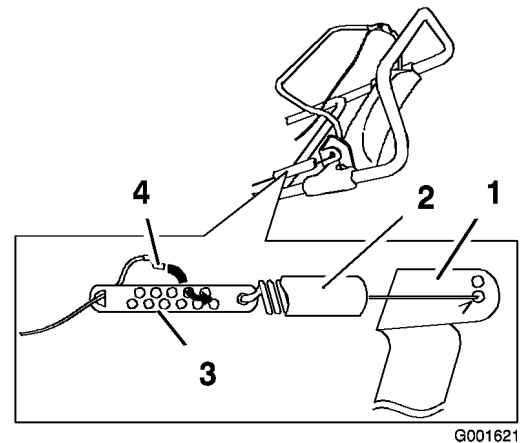

Figure 22
1. Unhook the spring end from the control bar bracket. (Figure 22).
2. Slide the spring cover up the cable adjuster. (Figure 22).
3. Unhook the Z-fitting from the cable adjuster, and position it in a different hole on the adjuster to obtain a gap of 1/8 to 1/4 inch (3 to 6 mm) between the control bar bracket and the handle (Figure 22).